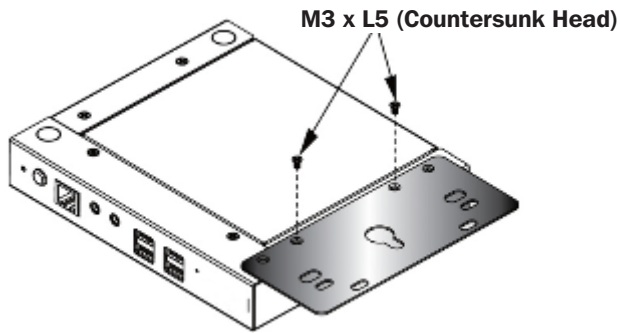

Figure 1: Secure Mounting Plate to Unit
1. Remove two bottom screws on the unit. Use the screws to secure the mounting plate to the bottom of the unit as shown in Figure 1.